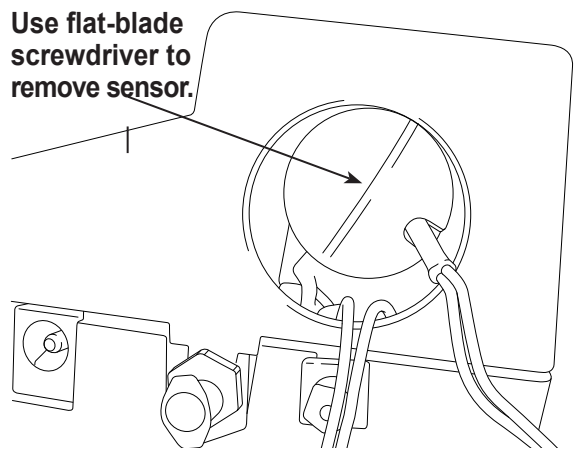

Figure 16
7. Move the cap and harness aside. Hold the lead from the sensor, and use a flat-blade screwdriver to unthread and remove the oxygen sensor. See Figure 16.